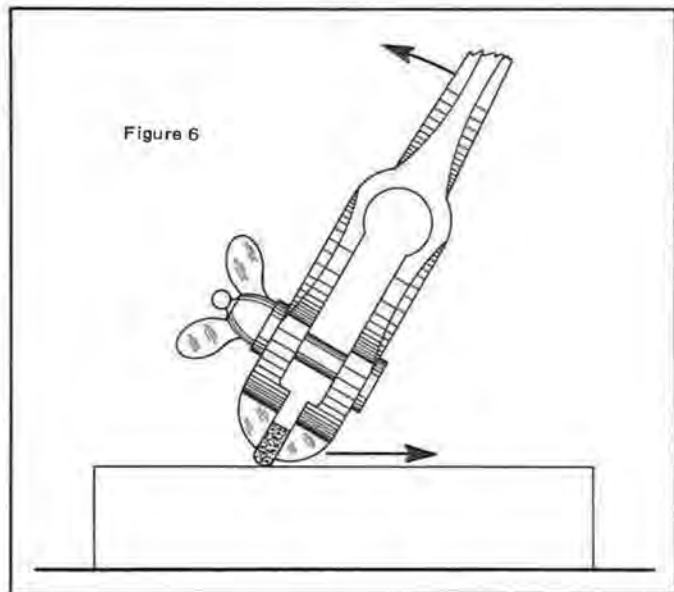

Figure 6
Some combination clicks and click springs have their top edge rounded and polished. This can be done by using the method shown in Figure 6. The article is held in a flat jawed pin vise as is shown. The article is first shaped on a fine stone, then smoothed on fine emery paper (4/0), and is then polished on a flat boxwood block with Linde A or Diamantine and alcohol. The motion that is given the pin vise is as follows. The pin vise is held in the hand somewhat like a pencil. The vise is held between the thumb and forefinger close to the end of the jaws while the handle of the vise rests on the hand like a pencil. The motion that is given the pin vise is a sweeping motion created by pulling the article held in the vise jaws on the stone or emery paper and, at the same time, the handle is brought toward an upright position like that which is shown by the two arrows.
One of the first items you work on as you disassemble the clock is the lower front movement plate. Figure 6 shows the plate (30), with the three winding mechanisms. The time mechanism (39) is in the center. The cover plate (33) is cut partly away to expose the click wheel (34) and winding wheel (35). Naturally, you cannot remove the cover plates yet. Your first step is to let down all the mainsprings. With the power safely off, strip all the winding parts from the lower movement plate. Leave the click (36) and clickspring (37) in place unless they need repair. External winding parts from time, strike and chime are interchangeable.
To finish up, add the mainspring barrels and the lower front movement plate. Install the winding parts shown in Figure 6. After you tighten all the pillar screws you are ready to wind and test.